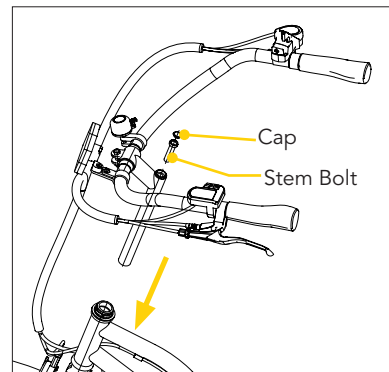

Fig. 3
- Step 5.** After assembling the head, make sure the handlebar stem is in line with the top tube (Fig. 3).